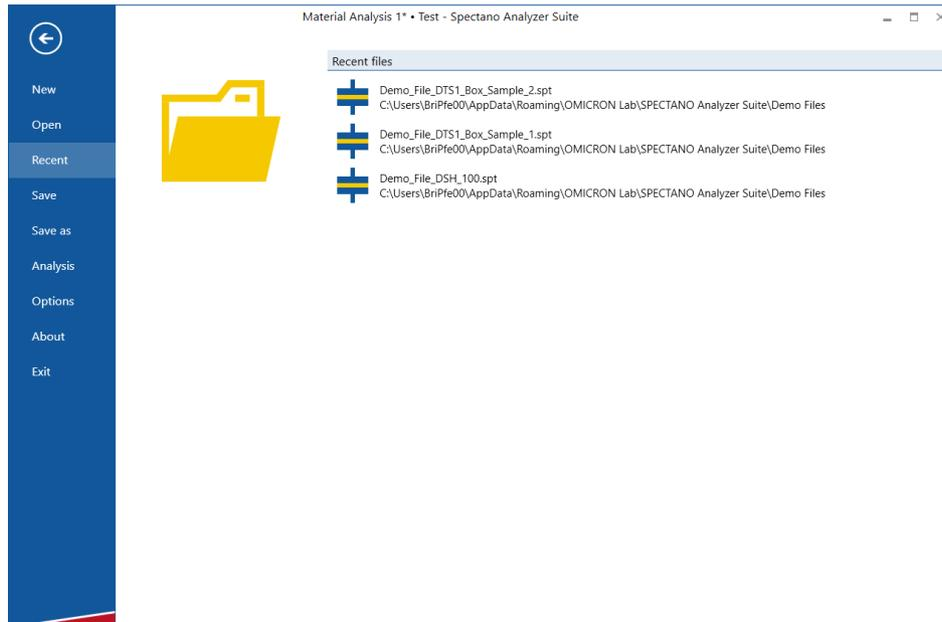

Figure 10-10 *SPECTANO Analyzer Suite* home view
**Note:** We recommend not changing the chart configuration rendering options. For the default settings, see Figure 10-10 "Options dialog box".